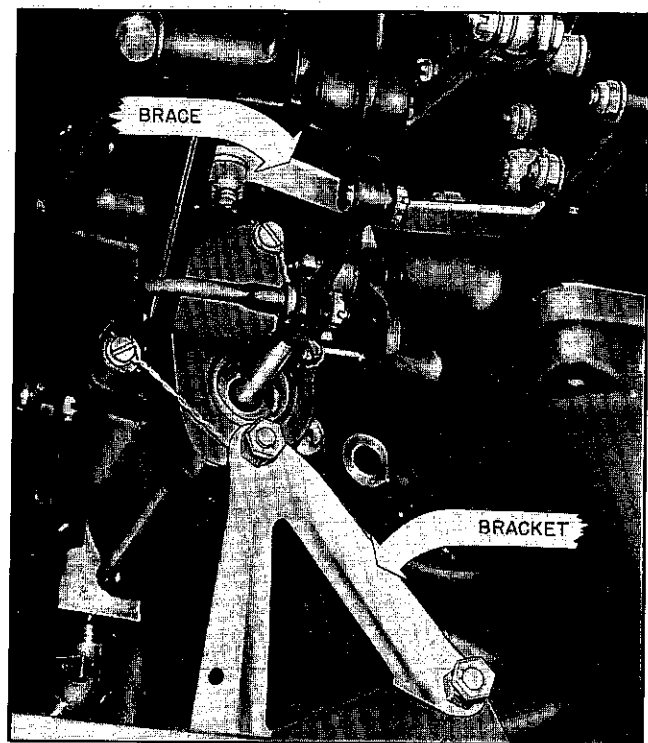

Figure 95—Location of Regulator to Carburetor Brace and Regulator to Vacuum Flange Bracket.
(3) Install the triangular shaped bracket securing it to rear stud of the regulator and to the vacuum pump flange two upper studs. (See Figure 95.) Use $\frac{1}{4}$ -28 plain nuts and pal nuts without washers on all three studs. *This bracket must fit freely and align without strain.*
(4) Remove the rear nut and washer from the carburetor regulator to throttle body support bracket and install the 90° angle end of the regulator to carburetor brace on this stud. (See Figure 95.) Secure with a self-locking nut but do not install the washer, as the brace will take place of the washer. The hole, in the other end of the horizontal support bracket should now align with the vertical hole in the lever support bracket on the rear of the regulator unit. These holes must align, so that the bolt can be inserted *without binding*. If these holes do not align, loosen the carburetor mounting stud nuts and re-locate the carburetor on the mounting studs so that these bolt holes do align. Install $\frac{1}{4}$ "-28 x 1" long bolt using two washers and secure with self-locking nut.